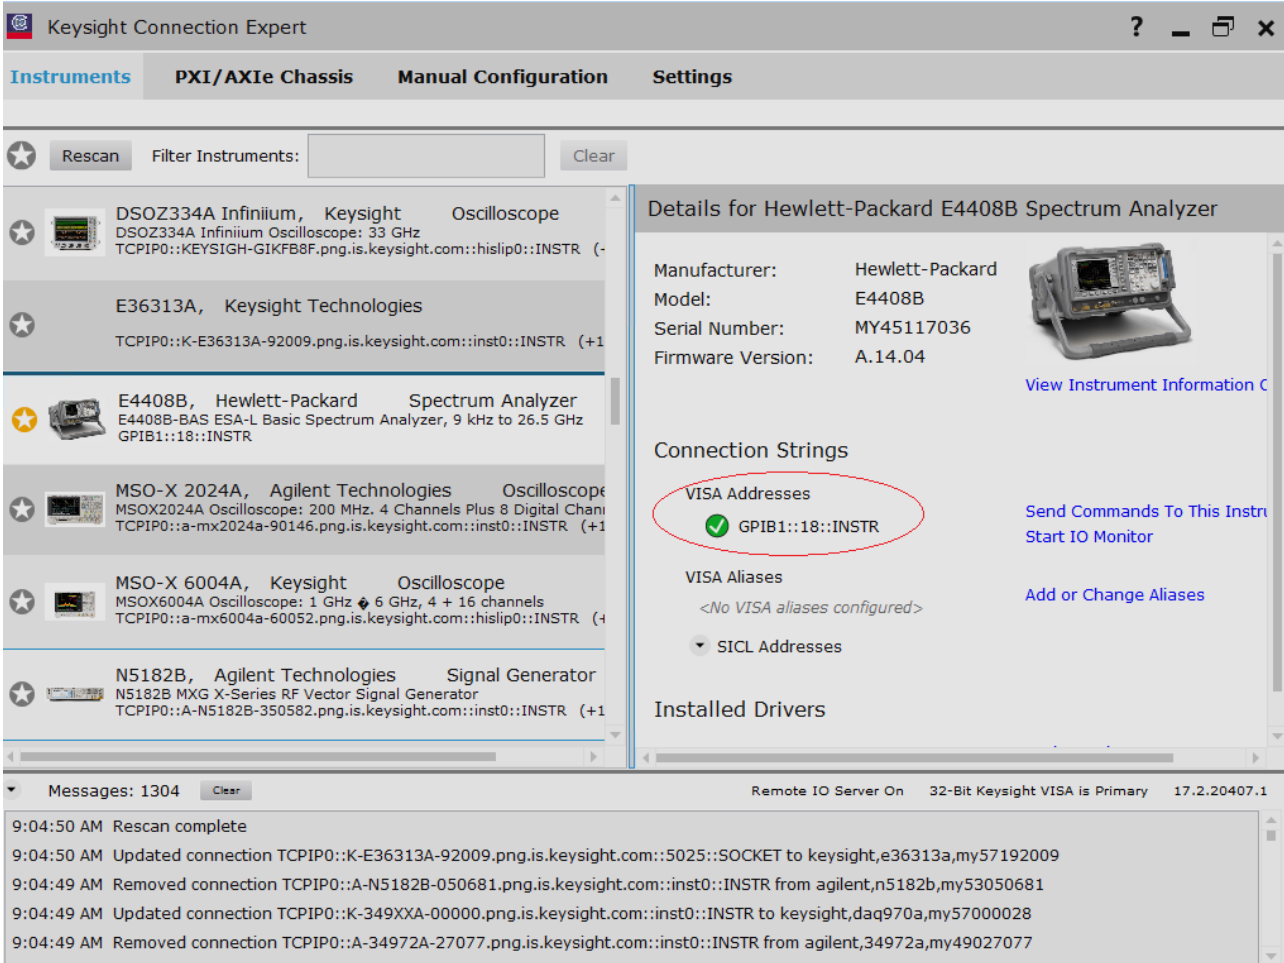

Figure 13 Checking VISA/SICL Address for Spectrum Analyzer in the Keysight Connection Expert
- 11 A pop-up box appears where you can enter either the VISA/SICL address or the IP address. Enter the information and click the **Verify** button, followed by the **Done** button to close this box. The VISA/SICL address or the IP address can be obtained from the Keysight Connection Expert application, as shown in Figure 13.